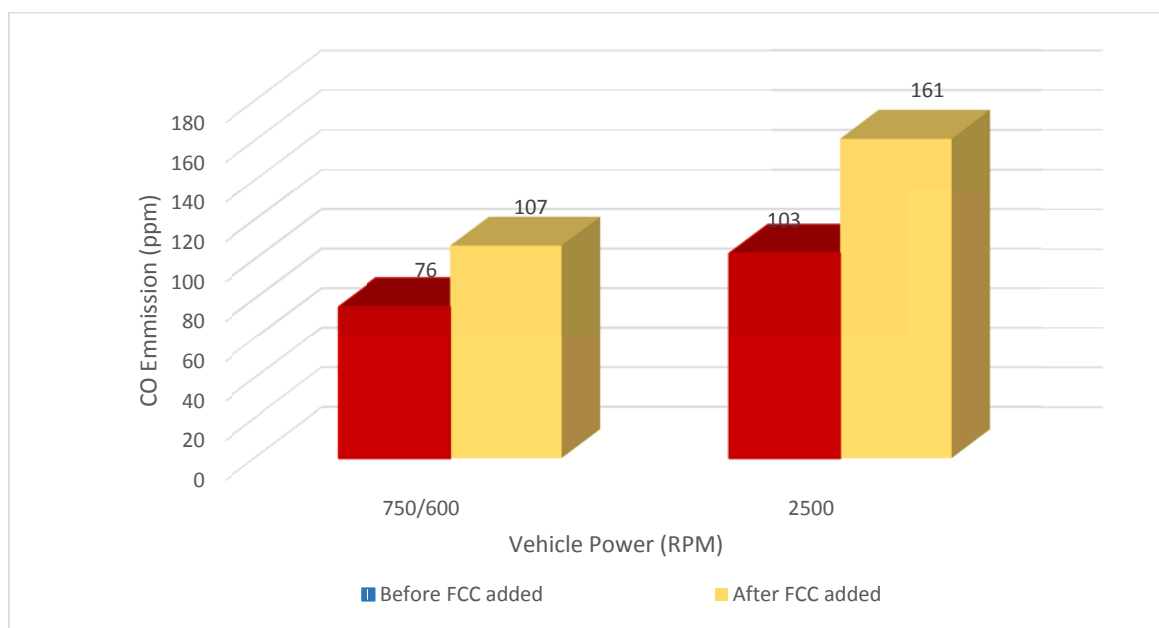

Figure 2a: Toyota Hilux 150 - NOx Emission Before and After FCC was added
The graphical summary of the NOx emission is presented in Figure 2a and 2b below.
On the other hand, Figure 2a compares NOx emission before and after FCC additive was added during both minimum and maximum rated power, in part per million. The oxide of nitrogen (NOx) emissions has increased i.e.: circa 40-56% increment. NOx is produced during the combustion process when nitrogen and oxygen are present at elevated temperatures. But at high temperatures, they undergo an endothermic reaction producing various oxides of nitrogen. Such temperatures can arise inside an internal combustion engine within the vehicle. The two elements combine to form nitric oxide (NO) and nitrogen dioxide (NO₂). It